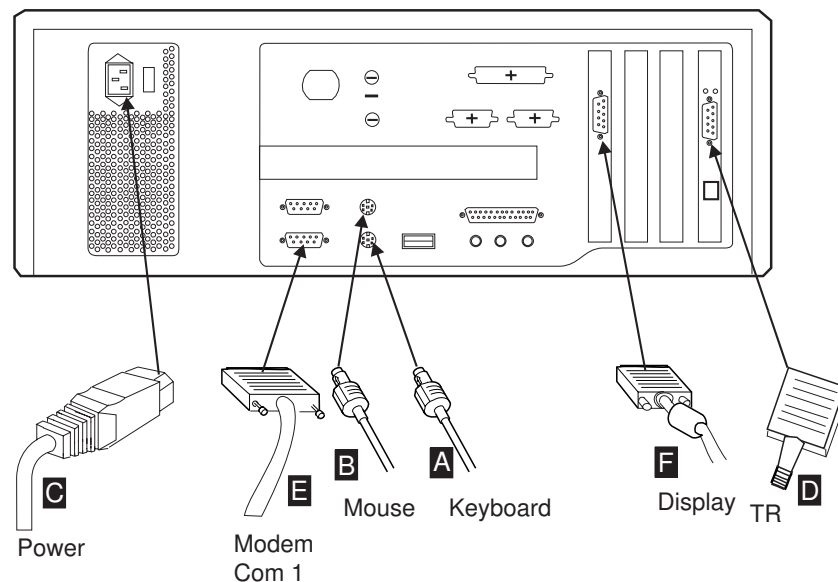

Figure 7. Cable Locations
- \_\_\_ 10. Connect the cables (see Figure 7) to the Service Processor as follows: